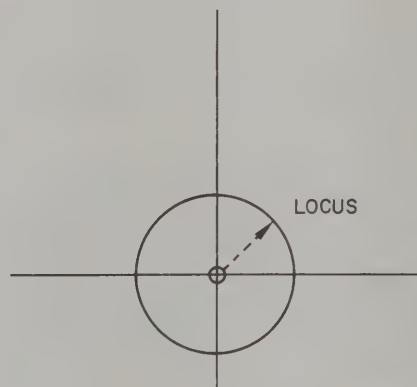

Figure 3-16. Polar Display Showing Locus of Sliding Load Vector with Directivity Cancelled
a. For single frequencies above 1GHz, setup the 8745A to measure the desired reflection coefficient (S_{11} or S_{22}). Calibrate the display unit and attach the sliding load (HP Model 907A) to the 8745A incident power port (INPUT PORT A or B). Slide the load and adjust the horizontal and vertical controls until the circle rotates about the center of the CRT, as shown in Figure 3-16. Directivity is now cancelled for this frequency and this test channel gain on the Network Analyzer.